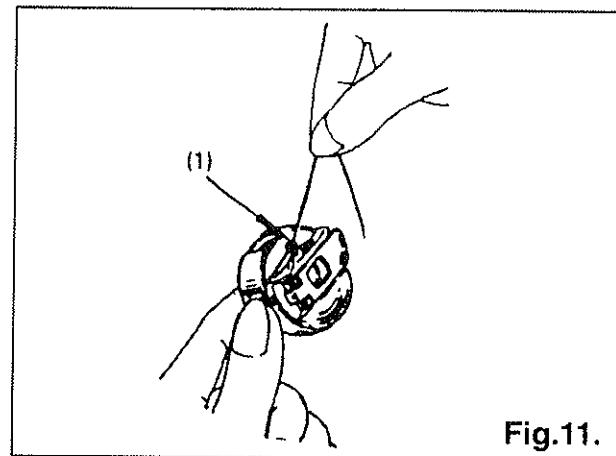

Fig.11.
3. Draw thread out from slot(2) on end of spring (1), (Fig.10) and pass it through bobbin case thread guide (1),Fig.11. Allow about 4 inches of thread to hang freely from bobbin.
NOTE: When straight stitching, a better result can be obtained if bobbin thread is not threaded through bobbin case thread guide (1),Fig.11.